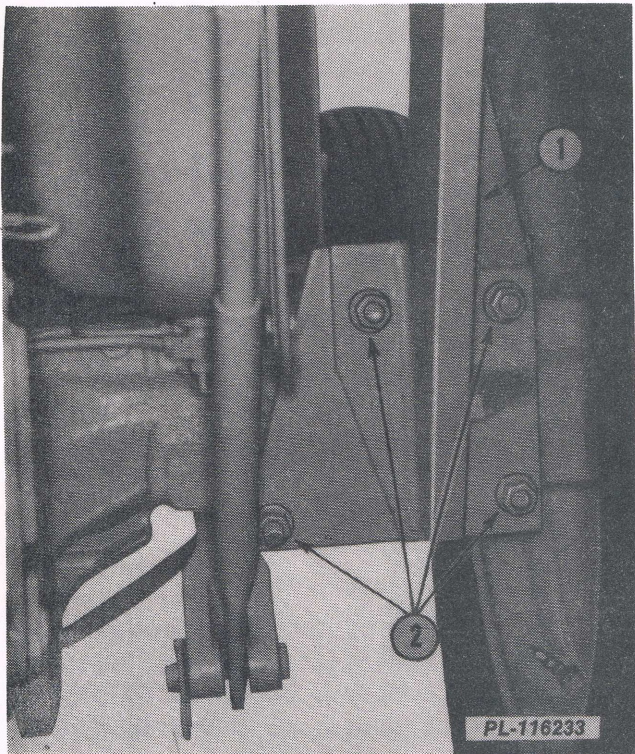

Fig. 1
3. Remove the nuts from the loader subframe rear mounting bolts (2, Fig. 1). Leave the top two bolts in place to support the loader frame.